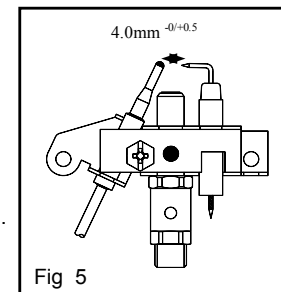

Fig 5
- Ignition System. A piezo crystal in the gas control valve operates the ignition system. Depress the gas control knob and turn anticlockwise rapidly (Two Clicks will be heard). If the fire does not ignite after any air in the gas supply pipe has been purged check electrode setting – Dimension between the tip of the thermocouple and the tip of the electrode should be 4.0mm -0/+0.5 (see fig 5).